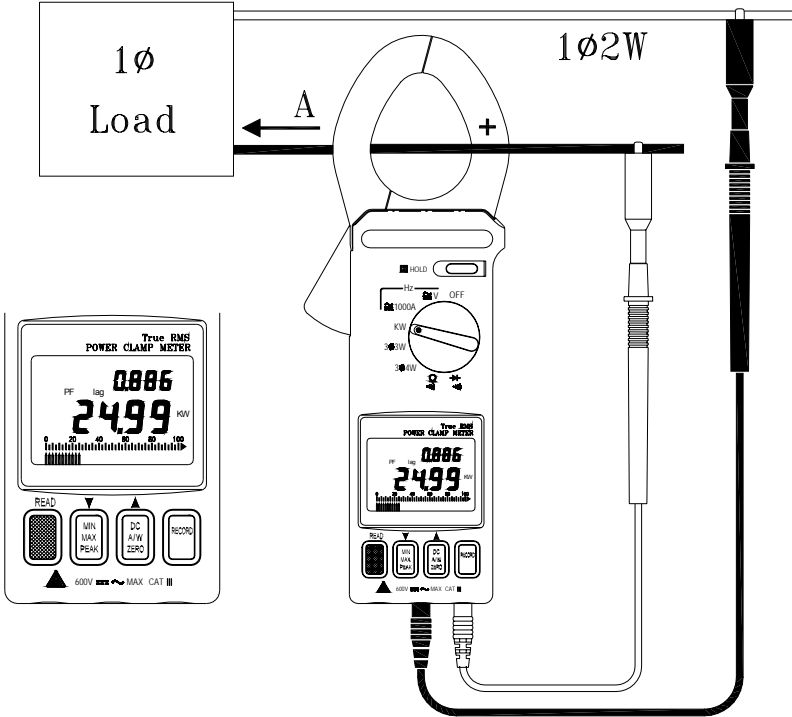

Figure 3
1. With the clamp jaws empty, turn the clamp meter on by setting the rotary switch to the KW position (refer to figure 3).